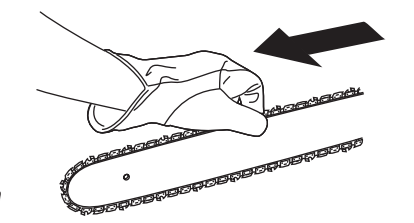

Fig. 35
**NOTE:** If the chain is too tight, it will not rotate. To loosen the chain, turn the chain-tensioning screw 1/4 turn counterclockwise. Ensure that the chain can be turned by hand without binding (Fig. 35). Also note that the chain will not rotate if the chain brake is engaged.